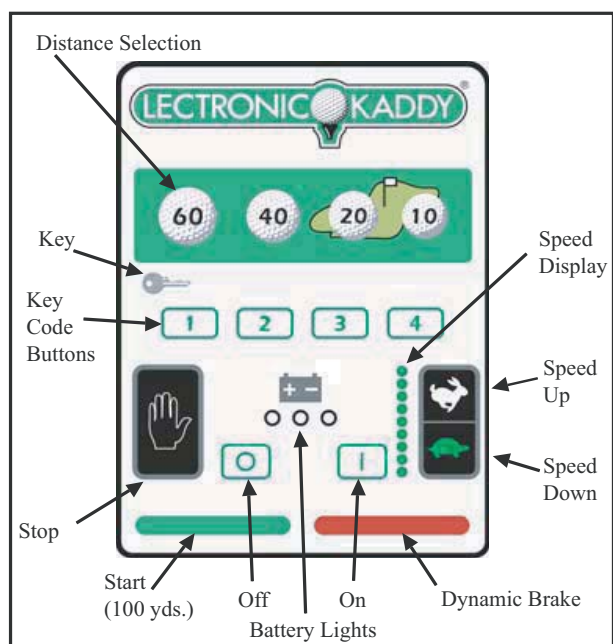

Figure 10
2. Press **1** button to turn on. The "normal" display will show one battery indication light (usually green) and the speed setting will be displayed as lit LED's on the speed display. See figure 10.
3. Confirm the battery condition by observing the battery lights (see figure 10). The green light should be lit. If the green light is not lit, refer to section on trouble shooting.